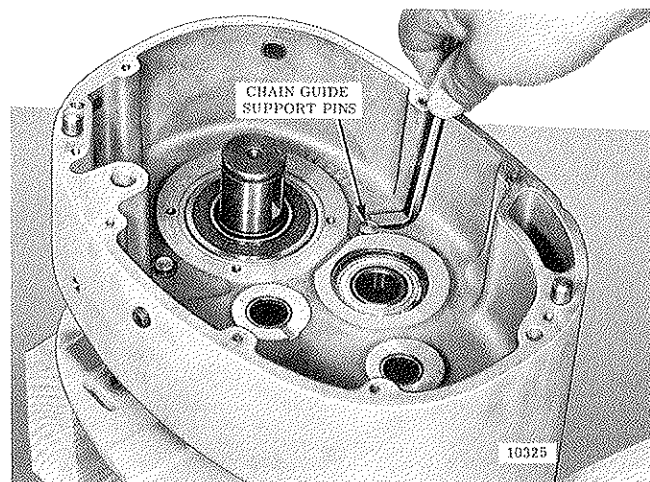

Figure 7-20. Removing Chain Guide Support Pins Using Pry Bar.
(3) Using suitable pry bar (fig. 7-20) partially raise three